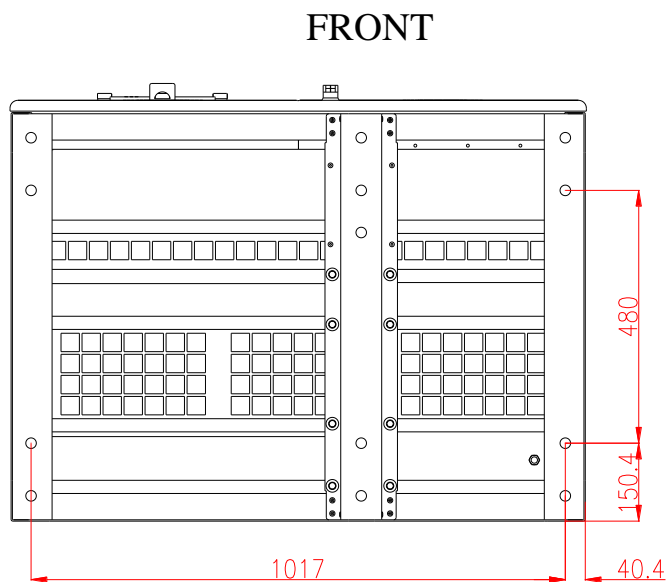

Figure3-7 Size of pedestal installing hole (bottom view)
- Step 2 Install 4 pieces of M12 expansion bolts into ground according to the installation hole position diagram, as shown in Figure3-7.
For convenient wire installation and maintenance, it is necessary to reserve corresponding cable trough, the schematic diagram is as shown in Figure3-7.